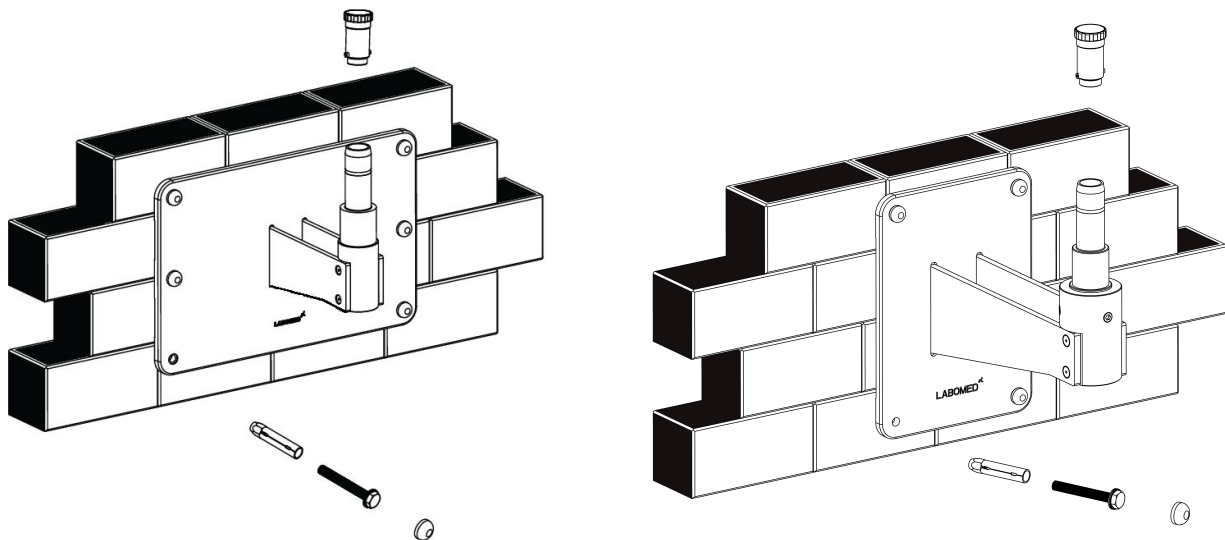

Fig. 23
3. Assemble the Arm on wall mount shaft referring fig.23 and reinstall the threaded plug into place.